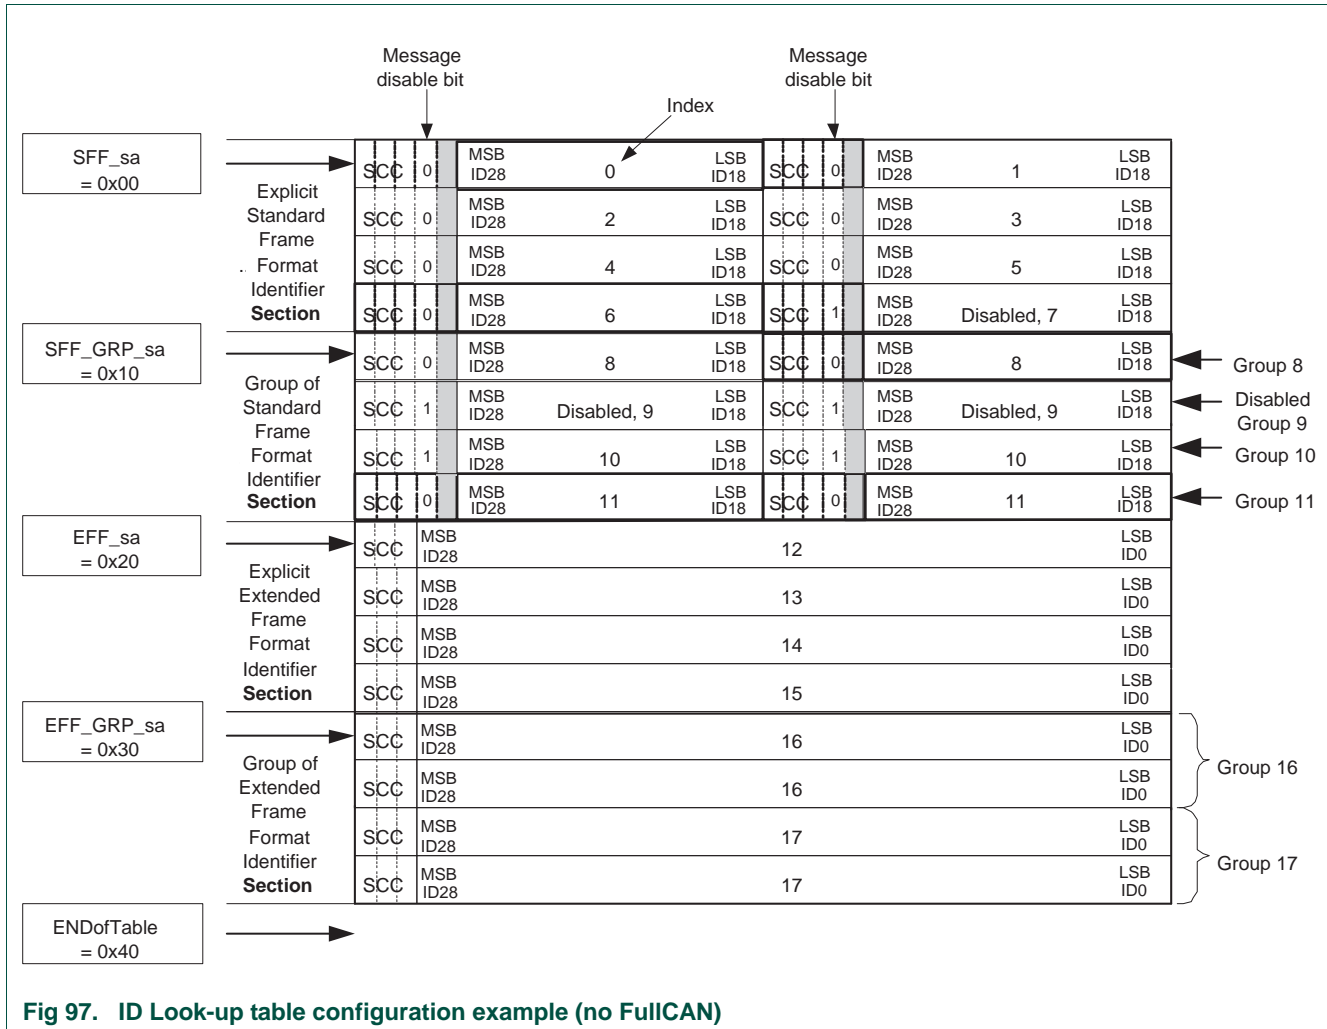

Fig 97. ID Look-up table configuration example (no FullCAN)
The Table below shows which sections and therefore which types of CAN identifiers are used and activated. The ID-Look-up Table configuration of this example is shown in Figure 97.
**Explicit extended frame format identifier section (29-bit CAN ID, Figure 97)**
**Group of extended frame format identifier section (29-bit CAN ID, Figure 97)**